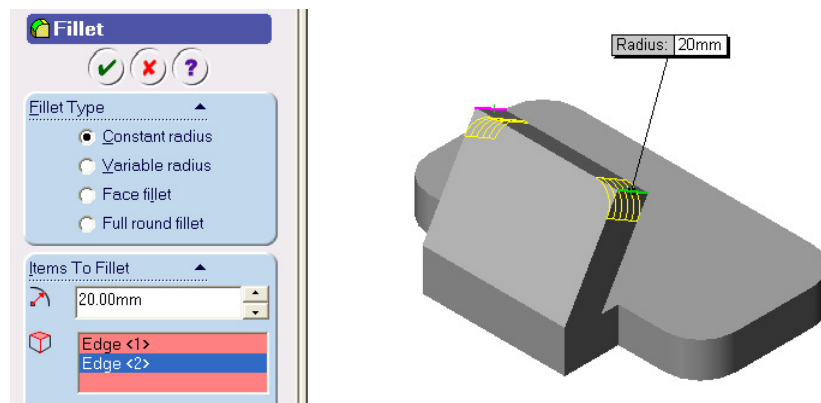

Figure 11 Slot body fillets
17. Select two top side edges of the slot body as shown in Figure 11.